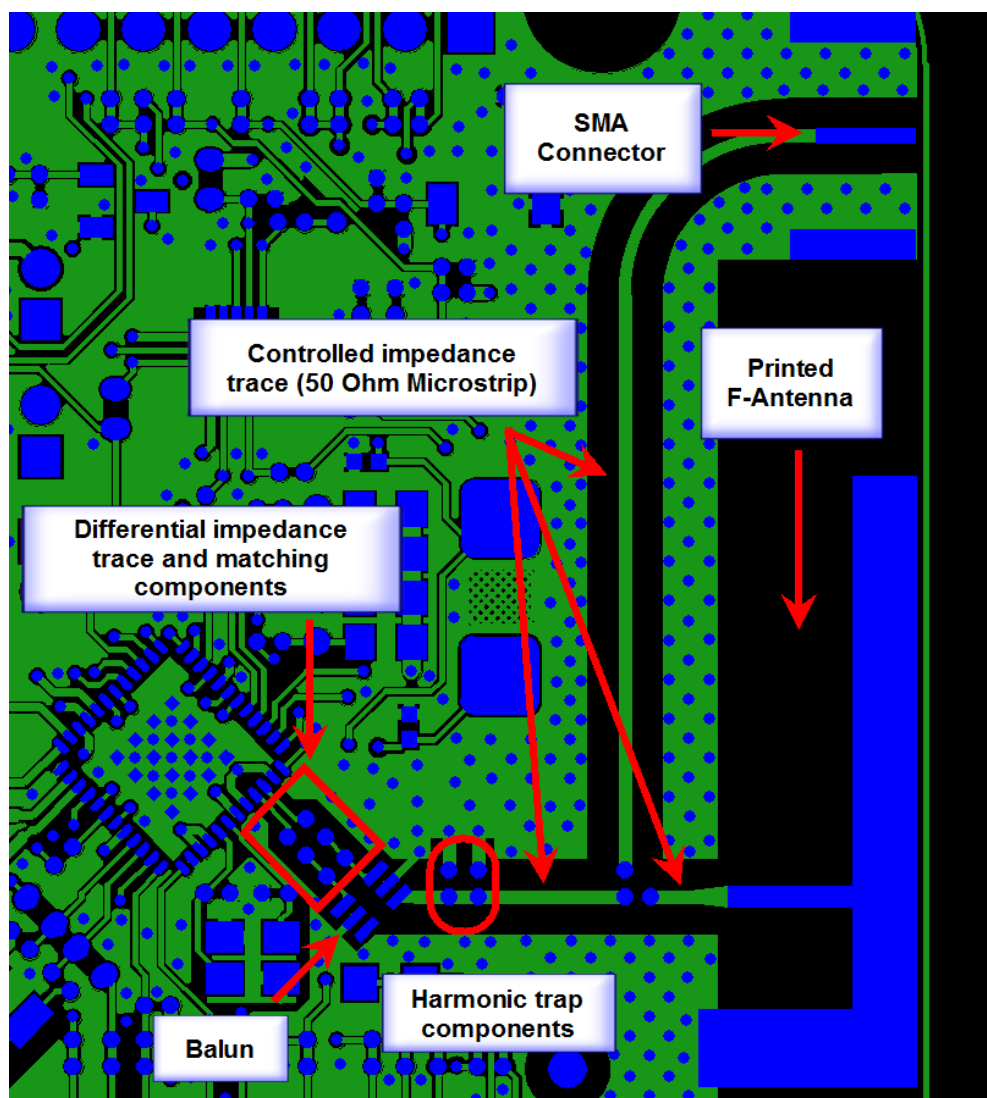

Figure 15. RF matching network
- In Figure 15 the microstrip topology is used. In CPW, the gap to ground is integral in maintaining the characteristic impedance.